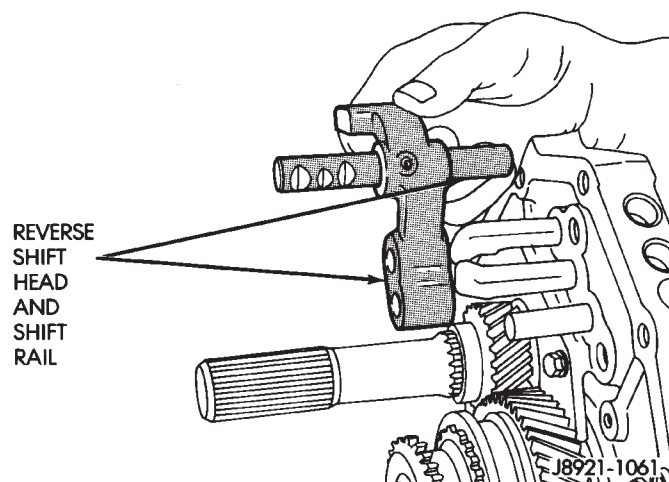

Fig. 101 Install Reverse Shift Head And Rail Assembly
(35) Install the reverse shift head and rail assembly (Fig. 101).